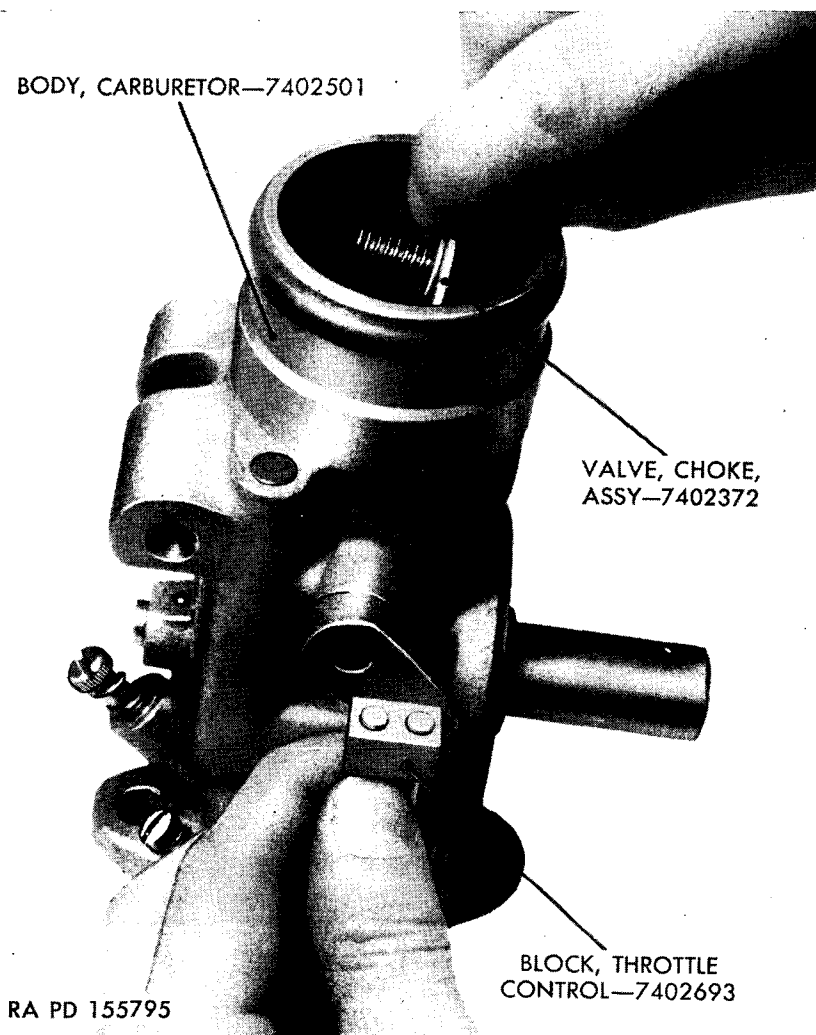

Figure 85. Installing choke valve.
g. Rest carburetor in vertical position, hold guide rods down, and insert choke valve into slot of choke shaft with poppet valve stem facing away from bottom (float bowl) side of carburetor body (fig. 85). Center choke valve in bore of carburetor body and hold choke lever flush against body while securing choke valve in shaft with two screws. Install choke—lever return spring between choke lever and carburetor body (fig. 82).